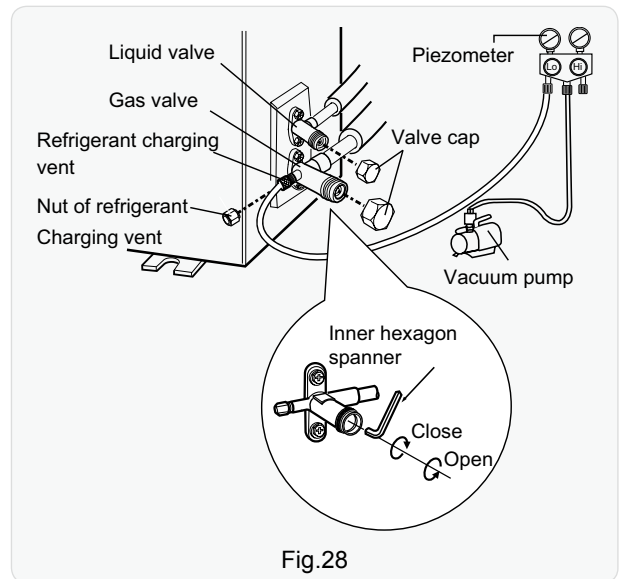

Fig.28
- (1) Remove the valve caps on the liquid valve and gas valve and the nut of refrigerant charging vent.
- (2) Connect the charging hose of piezometer to the refrigerant charging vent of gas valve and then connect the other charging hose to the vacuum pump.
- (3) Open the piezometer completely and operate for 10-15min to check if the pressure of piezometer remains in  $-0.1\text{MPa}$ .
- (4) Close the vacuum pump and maintain this status for 1-2min to check if the pressure of piezometer remains in  $-0.1\text{MPa}$ . If the pressure decreases, there may be leakage.
- (5) Remove the piezometer, open the valve core of liquid valve and gas valve completely with inner hexagon spanner.
- (6) Tighten the screw caps of valves and refrigerant charging vent.(As show in Fig.28)